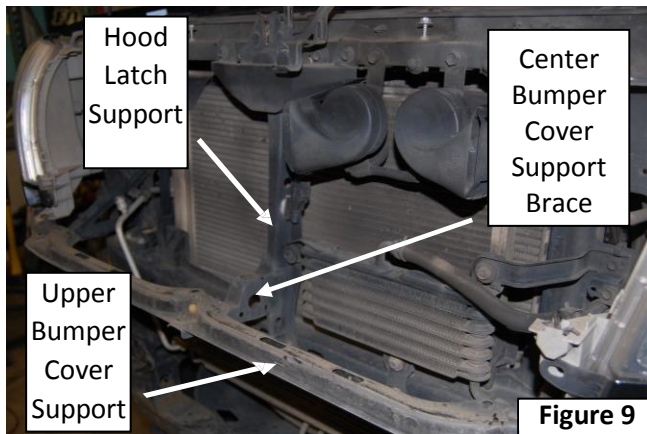

Figure 9
18. Remove the upper bumper cover support bar that runs sideways from headlight-to-headlight by removing the 4 nuts holding it in place. Replace the two outer nuts (closest to the headlights) to secure the outer support braces. See **Figure 9**.
Because all winches are different sizes and the grill installation is difficult with the bumper in place, the safest bet is to install the winch before installing the bumper to reduce the chances of having to remove and re-install the bumper. Alternately, the lower brush guard cross tube is removable for servicing the winch and may provide enough clearance for winch removal and/or installation while the bumper is installed on the vehicle. To remove the lower brush guard tube with the bumper installed on the vehicle, the radiator grill must be removed first which will require some dis-assembly of the hood latch mechanism and support bracket. You may also have to loosen the bumper mounting bolts to allow the bumper to rock forward to gain additional clearance to move the radiator grill past the brush guard upper cross tube. Depending on the size of your winch, you may also have to remove or cut the center bumper cover support brace for clearance. See **Figure 9** on the previous page. If you cannot remove your radiator grill or your winch will not pass through the opening available, you will have to remove the bumper to install the winch, and then re-install the bumper and winch as an assembled unit.
1. The Warrior Front Winch Bumper will accommodate most standard 8,000-12,000 pound winches currently on the market. Both integrated, and non-integrated solenoid types. Some larger, integrated solenoid type winches may require cutting or removal of the center bumper cover support brace for clearance (See **Figure 9**). Check / measure for clearance before attempting to install the bumper to the vehicle.